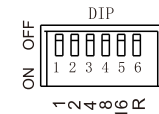

Fig. 4
- (1) DIP switch setting: DIP1-4 as program switch, please see setting as follow(1=ON, 0=OFF), DIP 5 is blank, DIP 6 is for remote controller (see fig. 4)
- (2) Calculation of DIP address code:
- (3) Using of Wireless Remote Controller: